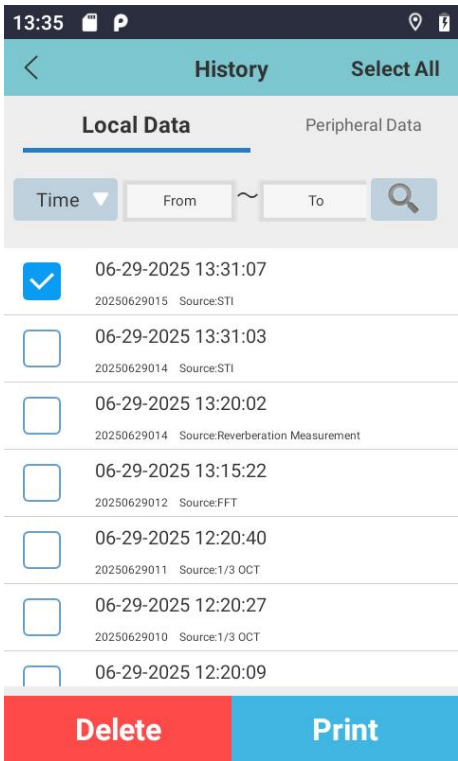

Figure 6.89
- a. Select any record (see Figure 6.89) and tap the Delete icon.